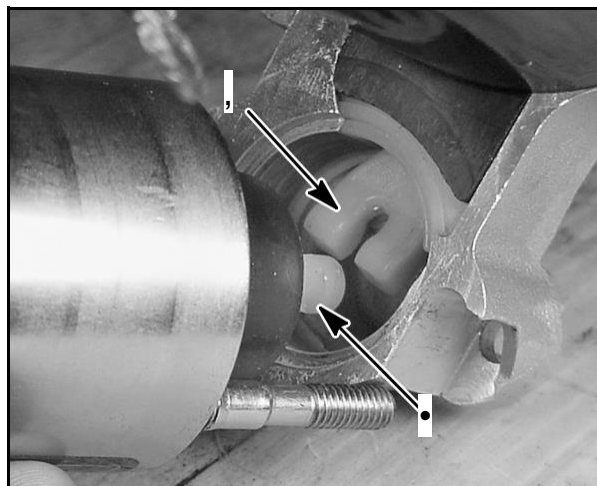

Fig. 30
Engage flats on plunger (1) with fork in drive lever (2) and assemble solenoid to starter, **Fig. 30**. Torque nuts to **70 in. lbs. (8 Nm)**.